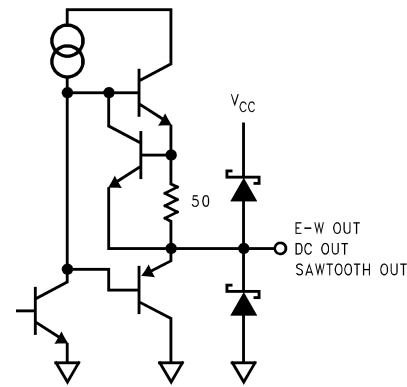

FIGURE 12.
4th order parabolic waveform components. The center position of the output waveform tracks the output voltage at pin 13 (DC OUT). See Figure 12 for the output schematic.
**Pin 13. DC OUT:** This pin outputs a variable DC voltage from 3.65V to 4.05V. The output voltage is controlled by the control voltage at pin 1 (POSITION). See Figure 12 for the output schematic.
**Pin 15. SAWTOOTH OUT:** This pin outputs an S-corrected sawtooth waveform with the amplitude controlled by pin 2 (HEIGHT). See Figure 12 for the output schematic.